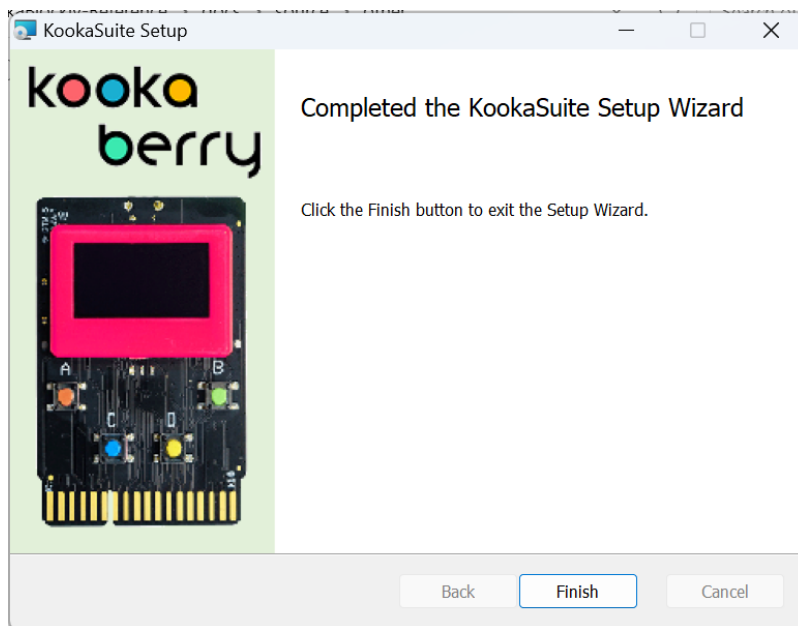

Fig. 1.9: Click on **Finish** to exit the Windows Installer.
7. A dialogue with a progress bar that tracks the installation progress will appear as in Fig. 1.9.